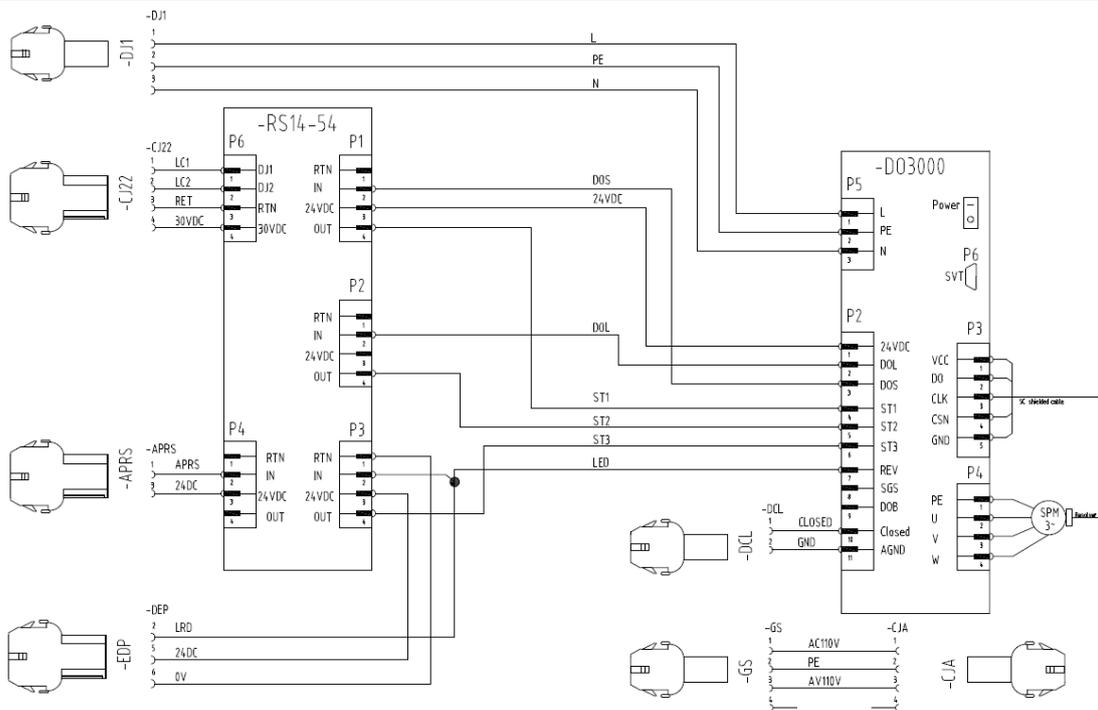

Fig.3-1 Wiring of HAA24360G1, HAA24360G7 controller components
3.1.1 Wiring of HAA24360G1, HAA24360G7 controller components (as shown in Fig.3-1)